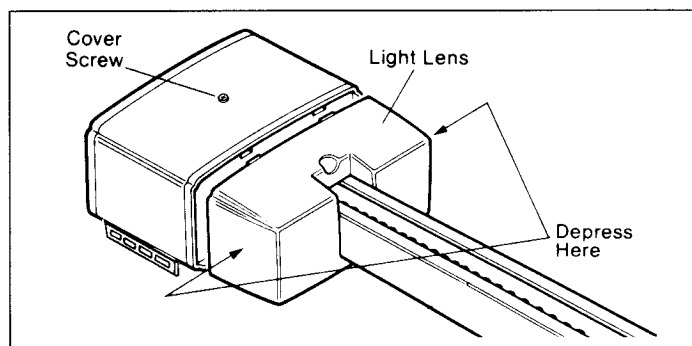

Figure 8
Step 13: To install light lens, move it into position against power unit. Depress light lens in area shown in Figure 8 and press lens toward bulkhead. Lens is designed to fit snugly and may require pressure on both sides, and downward, in order to preshape it so that it will slip into slots provided.